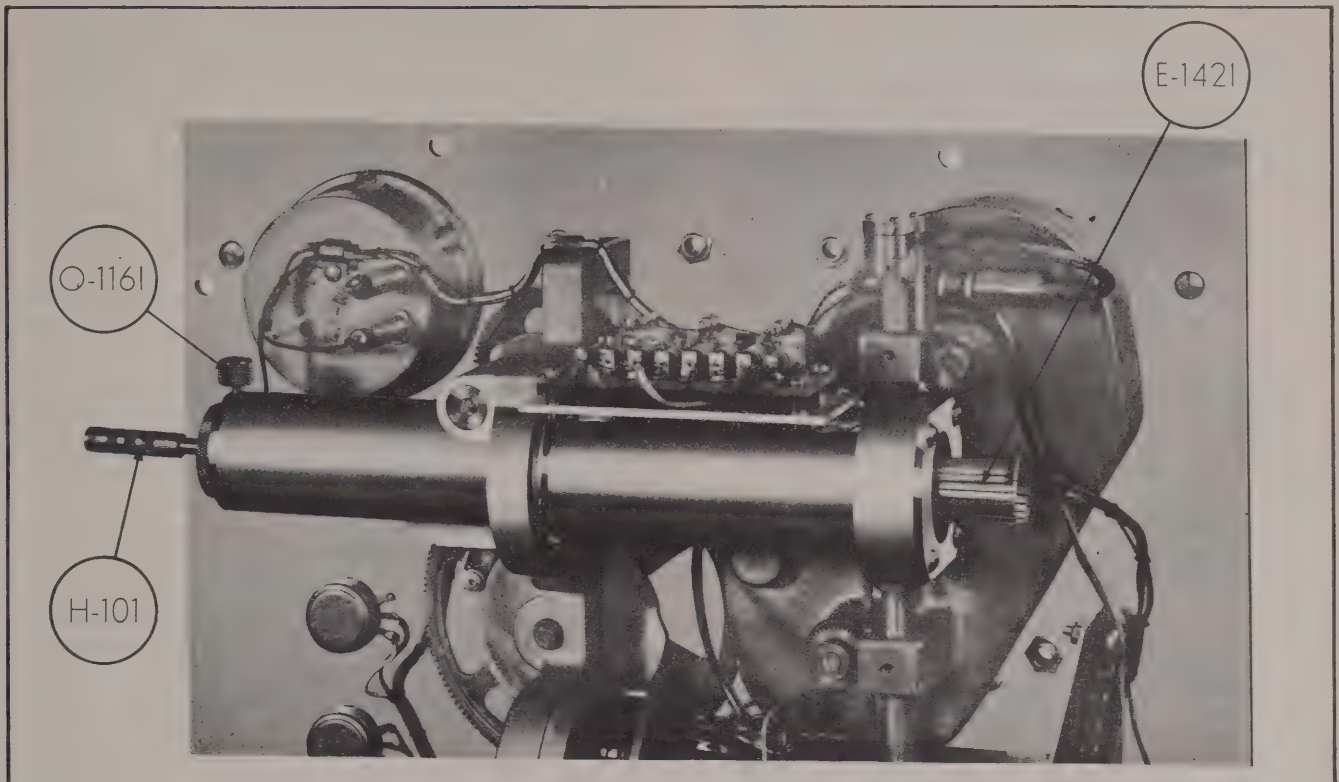

Figure 4-5. Tube Released from Contact Fingers
(6) Still holding the tube so that it will not fall, push the tube contact assembly E-142I *slowly* until tube is released from contact fingers. See figure 4-5.
(7) Remove the split ring contacts from lower resonator grid of old tube and place on new. Make certain that the solid side of the split ring points towards the tube base.
(8) Insert new tube well into grid contact fingers and pull tool so that E-142I is drawn out of E-142H and so that the tube is locked into the fingers. Be very careful that the tube is securely locked into the contact fingers.
(9) Loosen thumbscrew O-116I and pull inner conductor E-142H gently until tube seats in cavity. Make certain that tube has seated properly.
(10) Replace and tighten housing support E-142E.
(11) Tighten thumbscrew O-116I.
(12) Replace housing E-142B and then the #6-32 screw.
(13) Owing to variations in tube characteristics, it now may be necessary to adjust the repeller voltage on the JAN-2K28 tube. To determine whether or not such adjustment is necessary, connect the RF OUTPUT terminal of Signal Generator TS-403/U to an external synchroscope. It will be necessary also to use a crystal detector in order to demodulate the rf. Set the modulation selector switch (S-103) to the INT position and the SYNC SELECTOR switch (S-101) to either the x1 or x10 positions. The PULSE RATE, PULSE WIDTH, and PULSE DELAY controls can be set as desired.